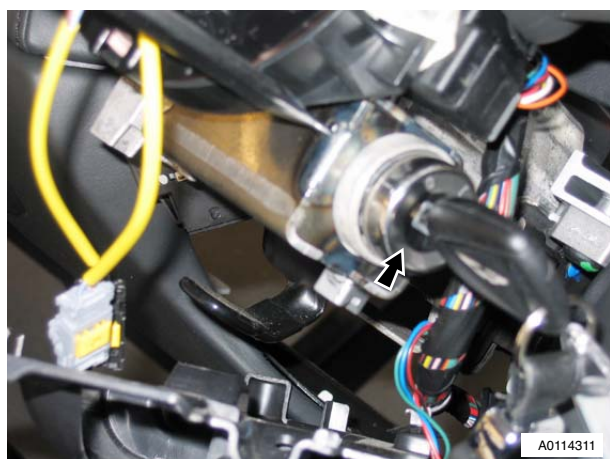

Figure 1
2. Insert ignition key into steering lock and turn to position 2 (see Figure 1).